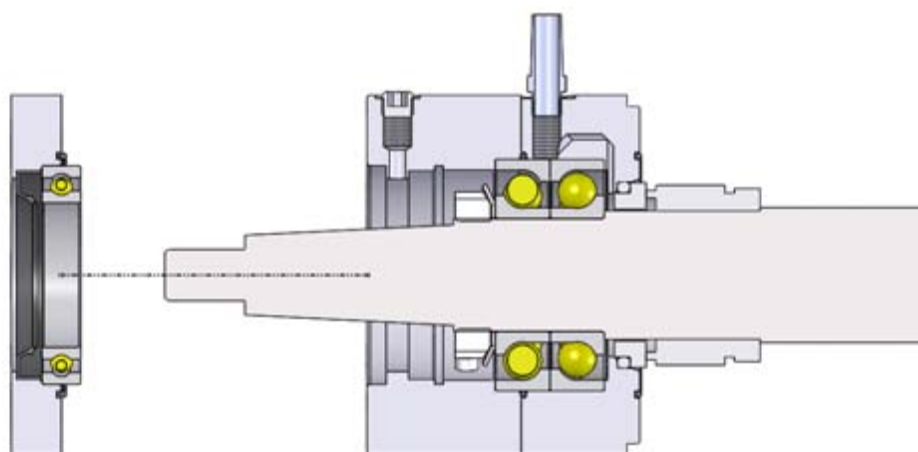

Figure 20. Installation of the assembled seal cover (cross section)
Make sure that the shaft seal is installed in the correct way (figure 20).
13. Set the assembled seal cover into place (figure 20).